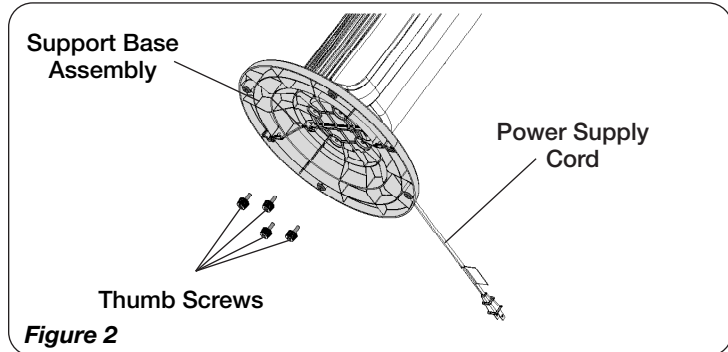

Figure 2
3. Align the **Support Base Assembly** with the Motor Base. Make certain to align the **Key** on the **Support Base Assembly** with the Locating Notch on the Motor Base. Attach the **Support Base Assembly** to the Motor Base with **Thumb Screws** (*Figure 2*).